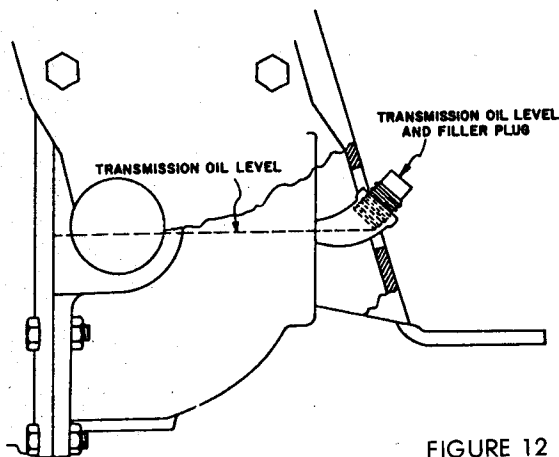

FIGURE 12
5. Remove plug. Oil level should just enter the threaded part of the pipe elbow at the filler plug, see Figure 12.